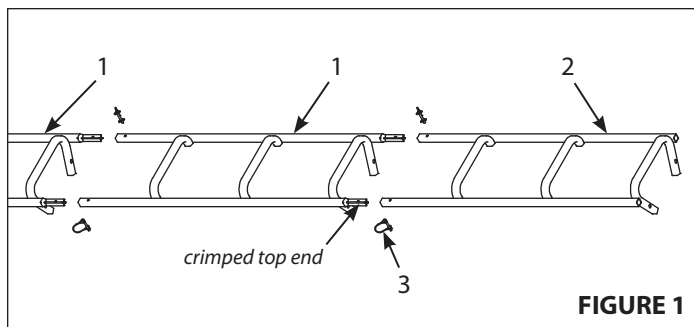

FIGURE 1
1. Assembly is done on the ground by inserting the male (crimped) top end of each crimped ladder section (1) into the female end of next section, with the top section (2) at the top end of the connected climbing aid. **SEE FIGURE 1.**
2. Secure all of the connection points together with the ten provided lockpins (3). **SEE FIGURE 1.**